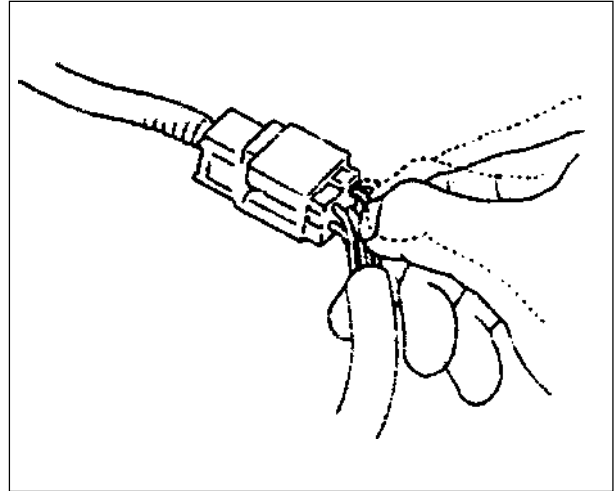

Fig. 10
- Ensure proper connection between the terminal to the wire. Rectify the loose connection by repairing / replacing the wire harness (Fig. 10).